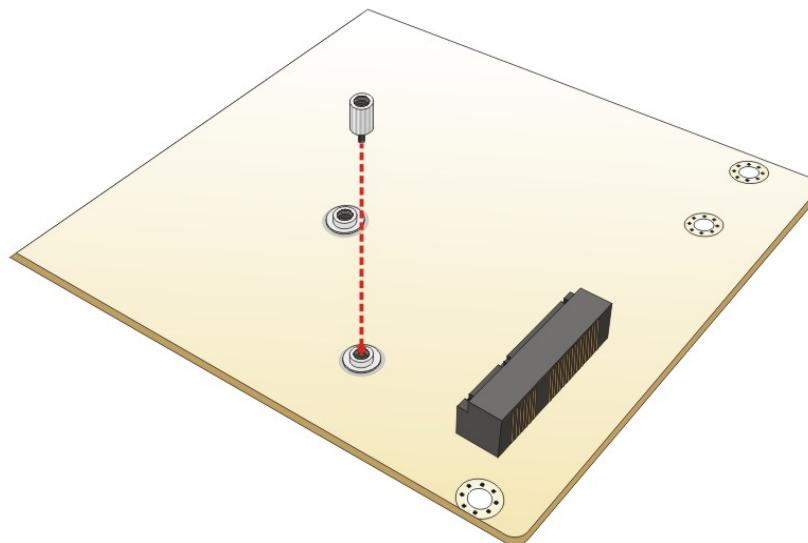

Figure 3-11: Installing the Standoff
Step 3: Install the previously removed standoff to the screw hole for the half-size PCIe Mini card (**Figure 3-11**).